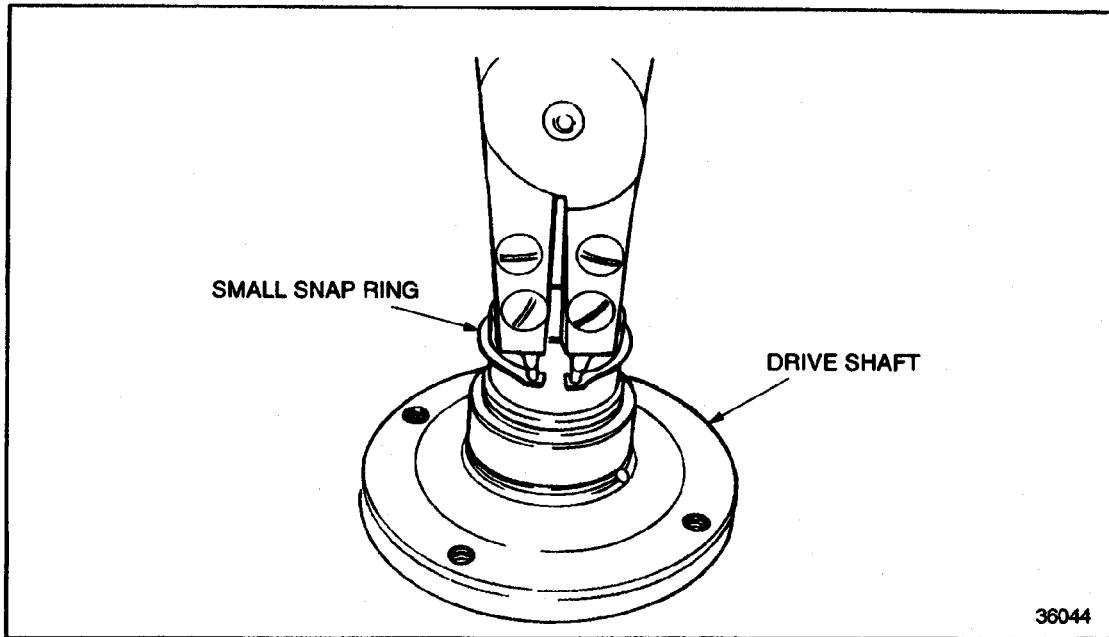

Figure 10-22 **Roller Bearing Inner Race Snap Ring Removal**
20. Using snap ring pliers, remove the small snap ring retaining the roller bearing inner race on the air compressor drive shaft. See Figure 10-22.